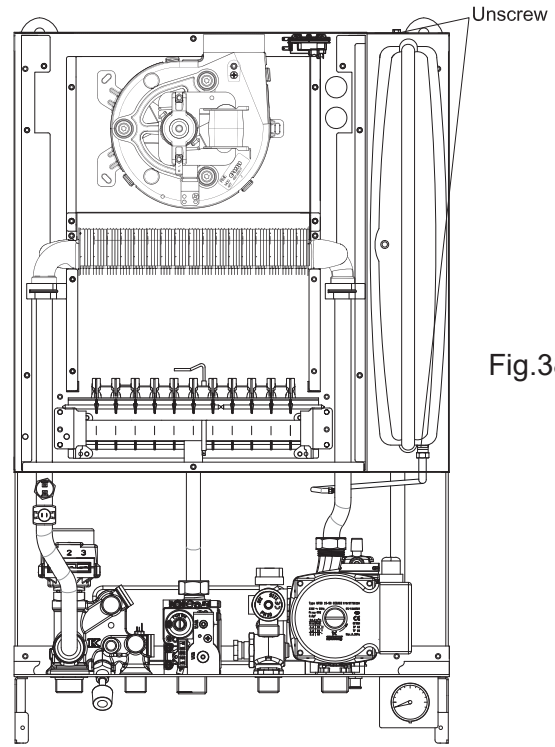

Fig.38
8.7 TO REMOVE/REPLACE EXPANSION VESSEL (Fig. 38)